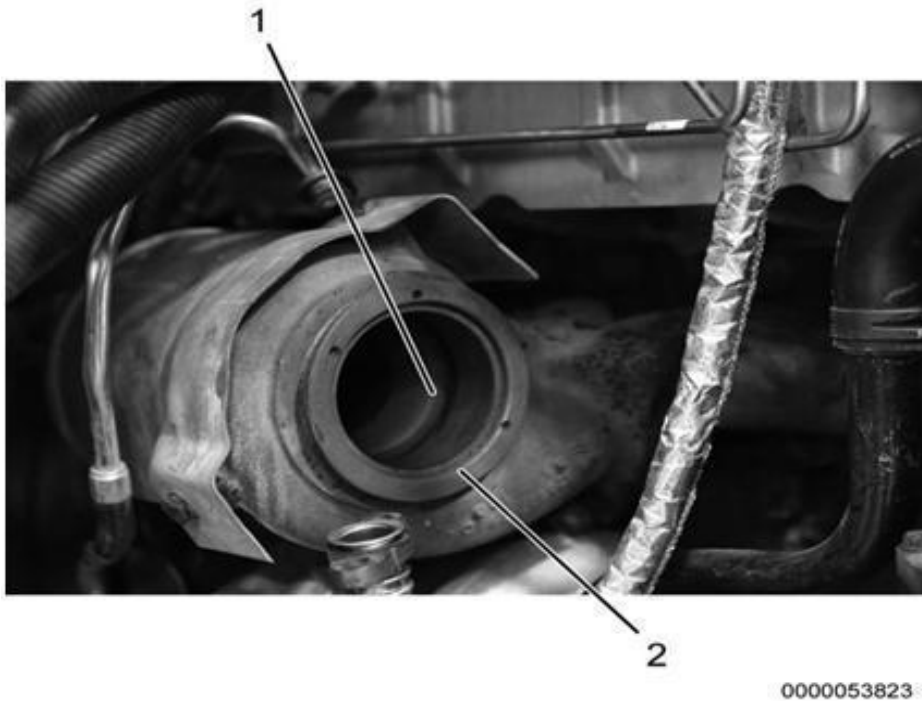

Figure 1. HP turbocharger Turbine Housing
1. Using suitable solvent and clean emery cloth, clean inside HP turbocharger turbine housing (Figure 1, Item 1) and exterior flange (Figure 1, Item 2).